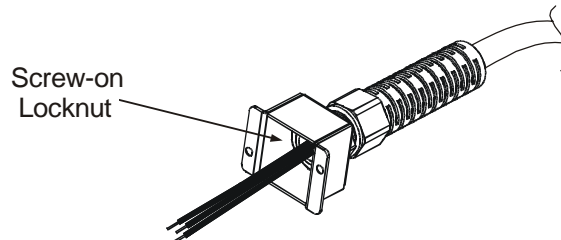

Fig.3-2: Stripped Wires installed in Strain Relief
- Slide the helix-shaped body onto the AC cable. Insert the stripped wires through the strain relief base until the outer cable jacket is flush with the edge of the base. Tighten (16-18 Lb-inch.) (18 - 20Nm) the body to the base while holding the cable in place. Now the cable is securely fastened inside the strain relief. Refer to Fig. 3-2.